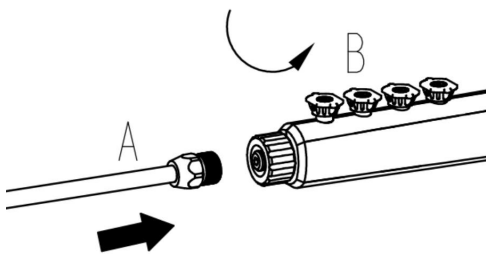

Fig.1
1. Install spray lance assembly, connect A&B as shown in Fig.1.